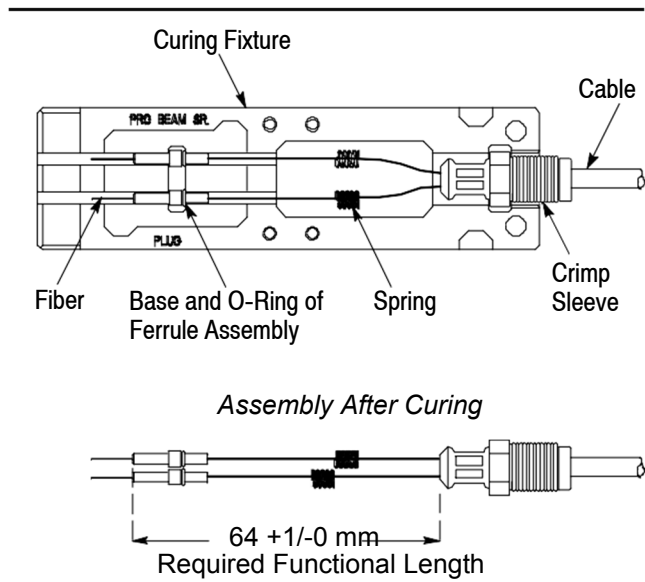

Figure 7
18. Remove the assembly from the curing fixture according to 408-8857. Measure the assembly to make sure that it conforms to the dimension given in Figure 7. If it does not, re-strip and re-terminate the fiber.